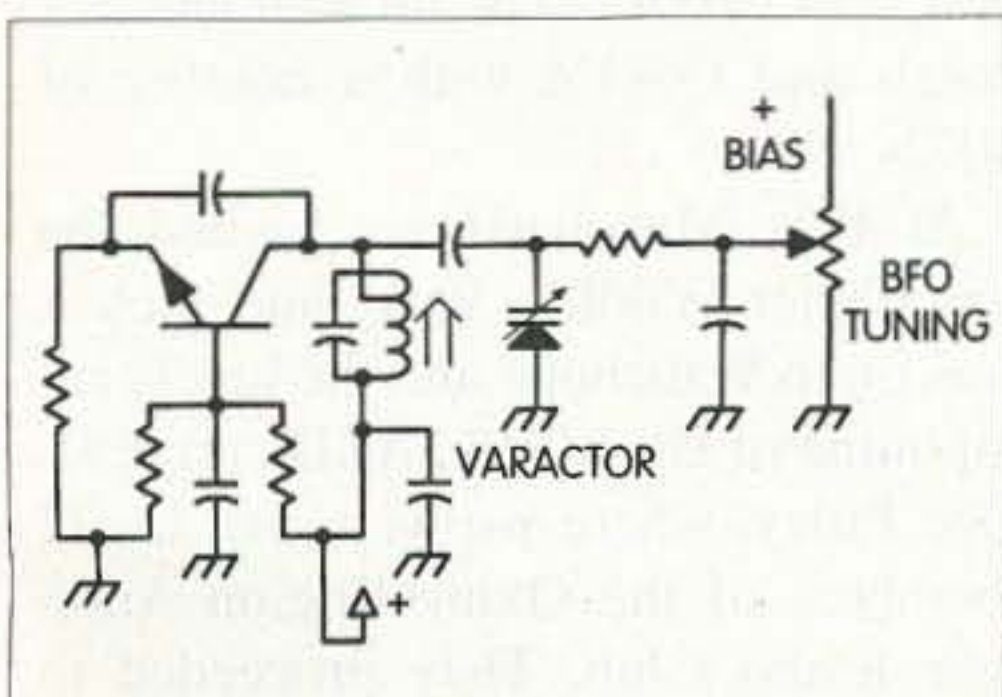

Fig. 7. A variable frequency BFO implemented with a Colpitts oscillator. A varactor is utilized for frequency control.
When a continuous wave (CW) signal or a single sideband (SSB) signal is to be received, it is necessary for the receiver to beat (mix) a local signal against the incoming signal. The beat note created when listening to a CW signal must be audible; otherwise, the operator hears only noise popping in the receiver. The typical beat note produced is usually between 400 and 1200 Hz and is selected for ease of copying. A BFO can be implemented by using either a fixed or variable frequency oscillator. A variable one is shown in Fig. 7.